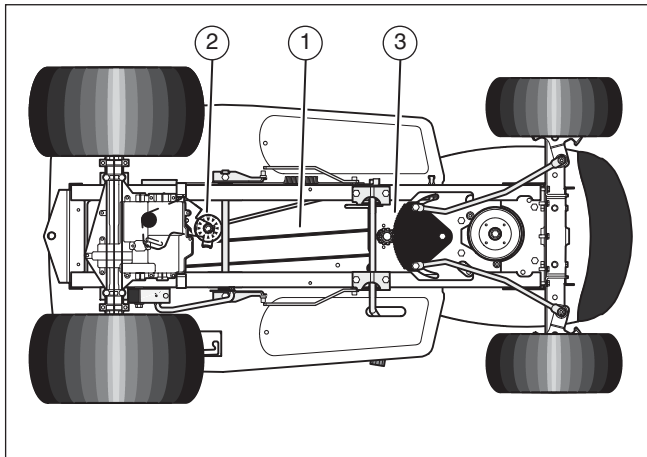

Figure 21
13. Check the routing of the motion drive belt (1) (see **Figure 21**). Make sure the motion drive belt is installed correctly on the idler pulley (2). Make sure the steering shaft assembly (3) is inside the motion drive belt.